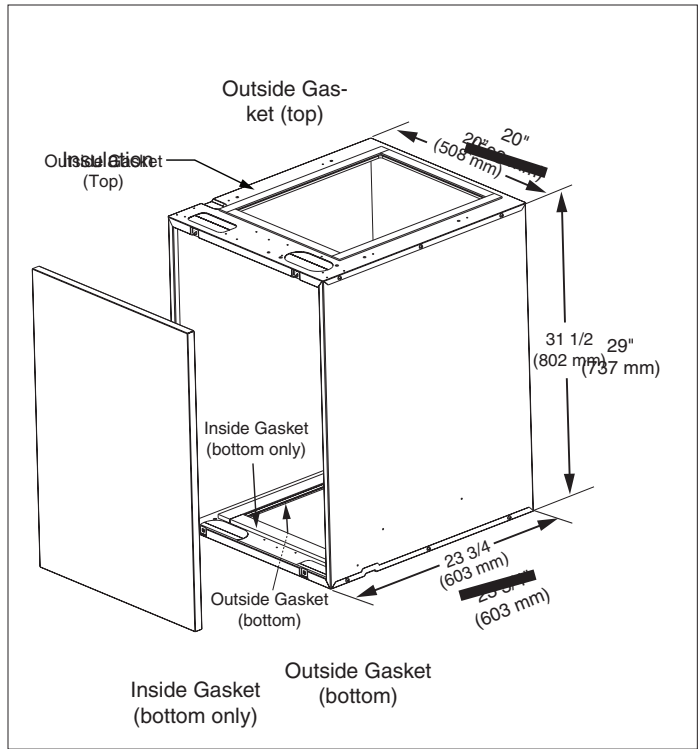
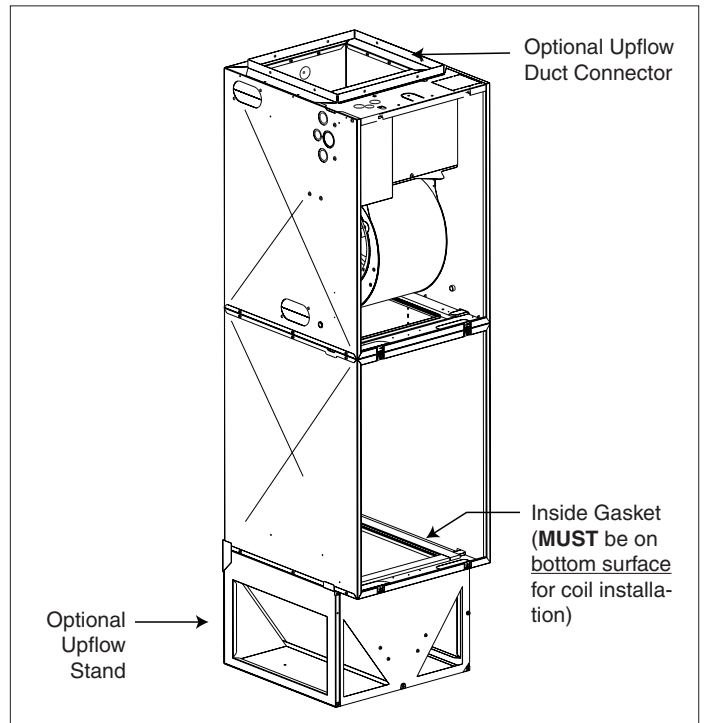

Figure 1. Coil Cabinet
Figure 2. Upflow Installation
The cabinet is factory equipped with insulation, and to assure a sealed fit with the electric furnace, the outside top and bottom are factory equipped with gasketing (see Figure 1).
1. After meeting all requirements from the furnace installation instructions, position coil cabinet, with inside gasketed surface toward bottom, on top of optional upflow stand or mounting platform (See Figure 2). Ensure gasket on outside of cabinet remains intact (See Figure 1). Secure with three or more fasteners at holes provided.
2. Position coil cabinet, with inside gasketed surface toward bottom (see Figure 2), over floor cutout and secure with three or more fasteners ensuring gasket on outside of cabinet remains intact. (See Figure 1.)
1. After securing the furnace as stated in its installation instructions (with the exception of the attachment of the return air grille mounting frame), position coil cabinet, with inside gasketed surface toward bottom, on top of furnace (See Figure 4). Ensure gasket on outside of cabinet remains intact (see Figure 1). Secure with two or more fasteners at holes provided.